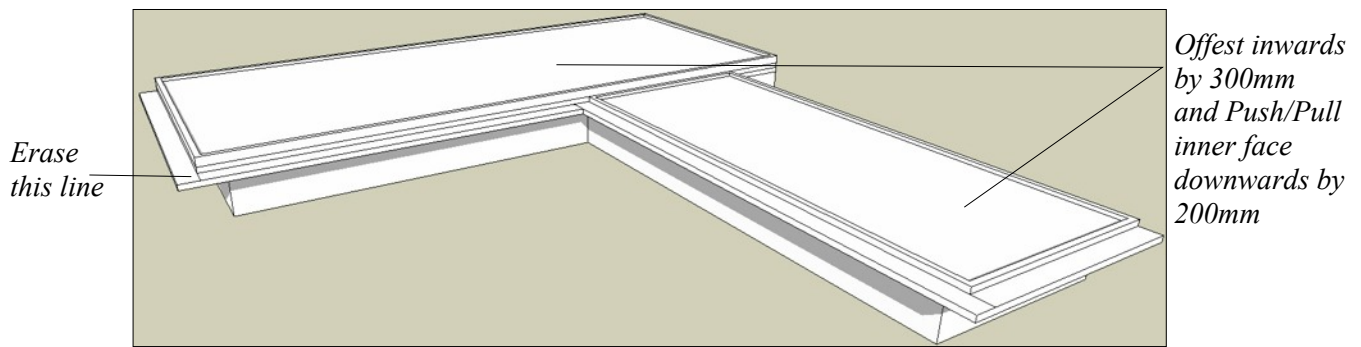

Figure 31. Roof parapet feature formed with the Offset and Push/Pull commands
- Create the parapet on the roofs of Buildings 1 and 2 by using Offset to select the roof faces and copying inwards by 300mm as shown in Figure 31.
- Use **Push/Pull** to move the faces of both roofs downwards by 200mm to form a feature parapet as shown in Figure 31.
- Erase the extraneous lines created during the previous sequences as shown in Figure 31.